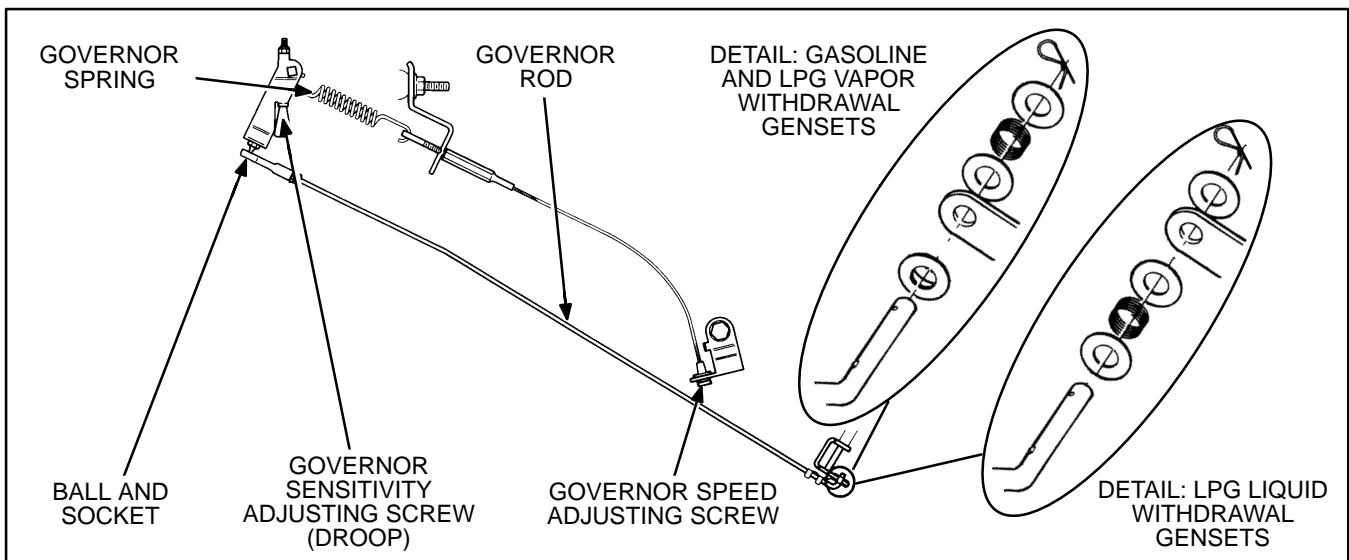

FIGURE 17. GOVERNOR ROD
Governor Rod Length Adjustment: The length of the governor rod (Figure 17) must be checked and adjusted as follows before other adjustments are attempted:
A. If droop (from no-load frequency) is more than 3 Hz (3.5 Hz) for Model BGD or 4 Hz (3.5 Hz) for Model NHD, turn the governor sensitivity adjusting screw (Figure 17) one turn counterclockwise. Disconnect the load and, if necessary, readjust the governor speed adjusting screw to return to 62-63 Hz (51.5-52.5 Hz) no-load frequency. Check droop again and repeat the adjustments, if necessary.
B. If droop (from no-load frequency) is less than 2 Hz (2 Hz) for Model BGD or 3 Hz (2 Hz) for Model NHD, turn the governor sensitivity adjusting screw (Figure 17) one turn clockwise. Disconnect the load and, if necessary, readjust the governor speed adjusting screw to return to 62-63 Hz (51.5-52.5 Hz) no-load frequency. Check droop again and repeat the adjustments, if necessary.
- A. If droop (from no-load frequency) is more than 3 Hz (3.5 Hz) for Model BGD or 4 Hz (3.5 Hz) for Model NHD, turn the governor sensitivity adjusting screw (Figure 17) one turn counterclockwise. Disconnect the load and, if necessary, readjust the governor speed adjusting screw to return to 62-63 Hz (51.5-52.5 Hz) no-load frequency. Check droop again and repeat the adjustments, if necessary.
- B. If droop (from no-load frequency) is less than 2 Hz (2 Hz) for Model BGD or 3 Hz (2 Hz) for Model NHD, turn the governor sensitivity adjusting screw (Figure 17) one turn clockwise. Disconnect the load and, if necessary, readjust the governor speed adjusting screw to return to 62-63 Hz (51.5-52.5 Hz) no-load frequency. Check droop again and repeat the adjustments, if necessary.